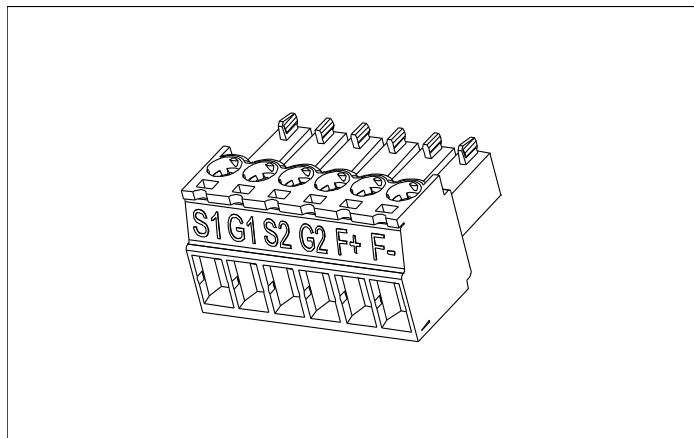

Figure 4. STO connector.
- STO terminal connector (six pins black connector, see Figure 4)